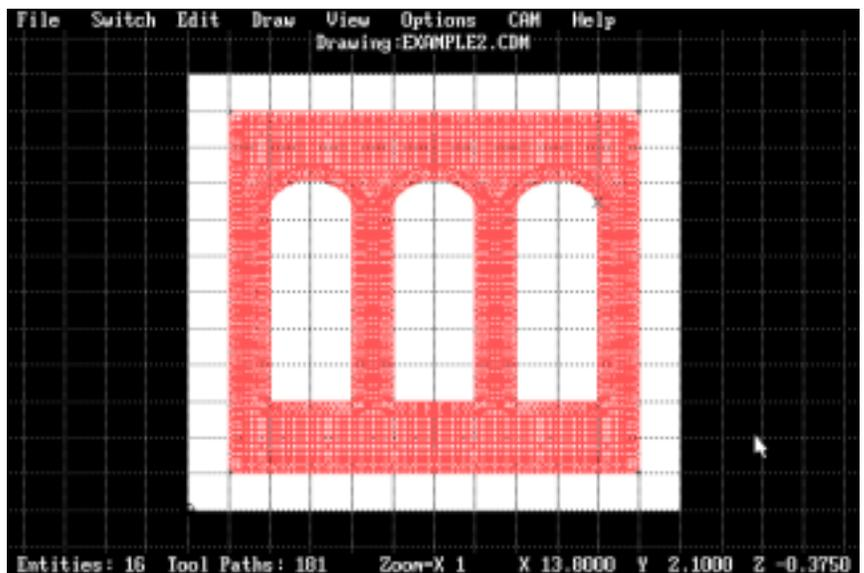

Figure 4.2.7 Completed Tool Path
19. Repeat Step 17 for last two islands. The screen should now look like **Figure 4.2.7.**